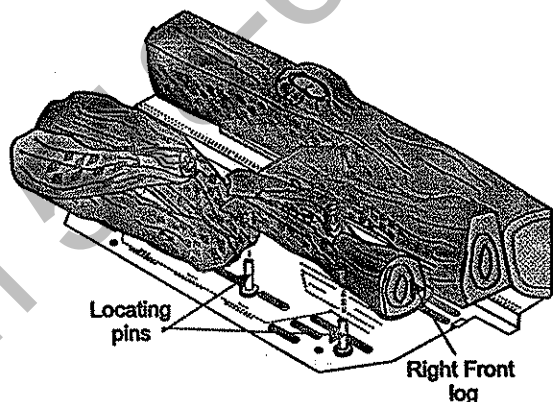

Figure 3
- 4) Place the right front log, carefully sliding it down onto the right pins of the front burner. See figure 3.
- 4) The latches should already be at the proper setting. If they are too hard or too easy to close, you may want to adjust them by loosening the locking nut and turning the latch catch. See figure 3.